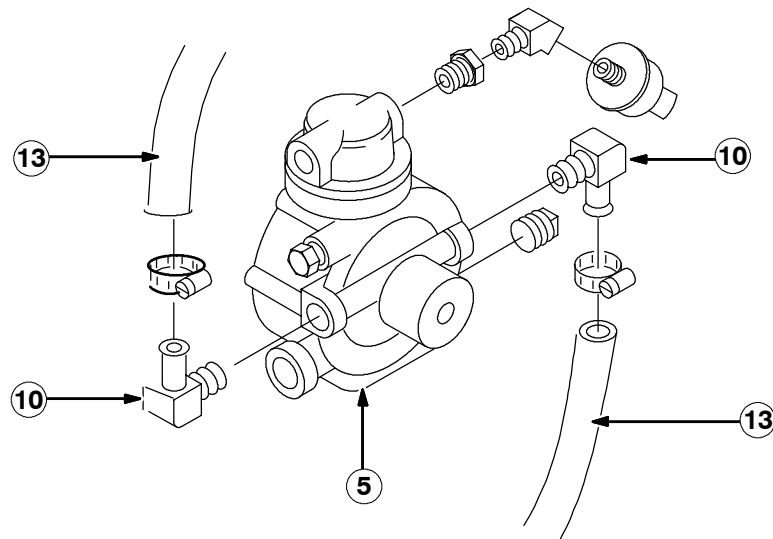

FIG. 7 - INSTALLATION, HEATER HOSE
5. Install set aside elbow and new elbow (10) to vaporizer/lockoff. (Refer to FIG. 7 and 10)
6. Install the 90° fitting (11) for LPG hose (12) in the vaporizer/lockoff assembly.
9. Cut the length of heater hose into two 48 in. (1220 mm) pieces (13).
10. Connect one end of one heater hose (13) to the side of the vaporizer/lockoff (5) under the pressure switch (23156) with a 90° fitting (10). The other end of the hose will connect to the thermostat housing on the front right hand side of the engine. (Refer to FIG. 7 and 10)
11. Connect one end of the other heater hose (13) to the opposite side of the vaporizer/lockoff (5) with a 90° fitting (10). The other end of the hose will connect to the air bleeder valve on the left hand side of the engine. (Refer to FIG. 7 and 10)
(Refer to FIG. 7 and 10)